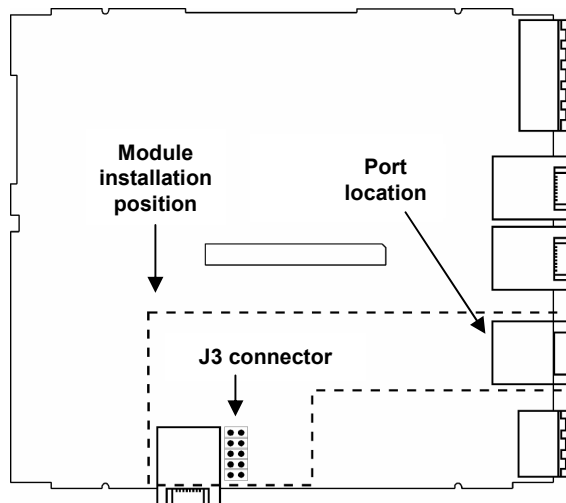

Figure 3. Controller, Main PCB Board
5. Locate the J3 connector shown in Figure 3.